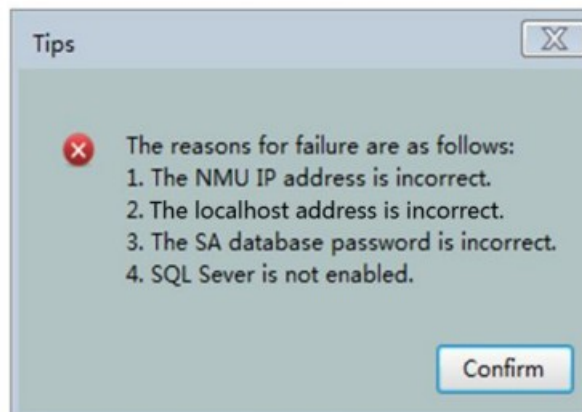

Fig.2.7 Tips
3. If an error occurs during the database connection operation, the following interface will pop up (see Fig.2.7):